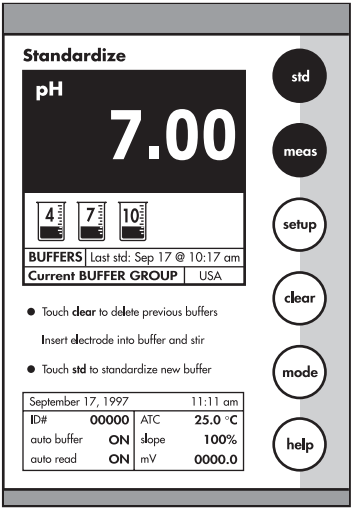

Figure I.2. The accutest AR15 pH meter standardization screen
5. On the main (Measure) screen of the pH meter, press **std**. The display will change to the **Standardize** screen as shown in Figure I.2. Touch **clear** to remove any previous standardization values. If the screen says “Not Standardized”, then it is not necessary to press the **clear** button.